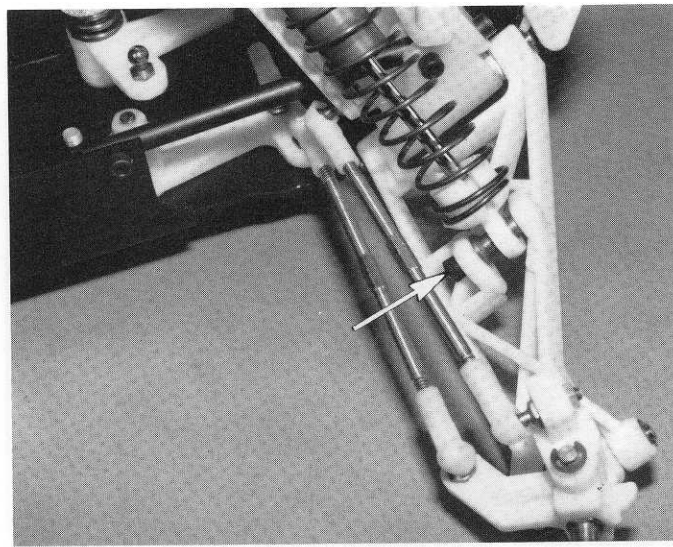

**Fig. 122**
□ **Fig. 122** On the front shocks, install the spring collars, as shown. Use the short gold springs.